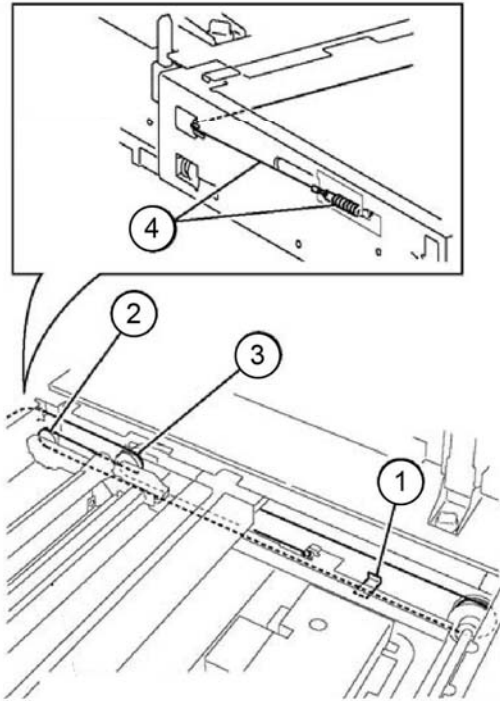

Figure 11 Spring attachment
6. Attach the extension spring hanger end of the carriage cable, Figure 11:
- a. Remove the tape (1) that secures the cable.
- b. Wrap the cable on the pulley (2).
- c. Wrap the cable on the pulley at the rear of the half rate carriage (3).
- d. Attach the extension spring on the cable and hook it to the Frame (4).